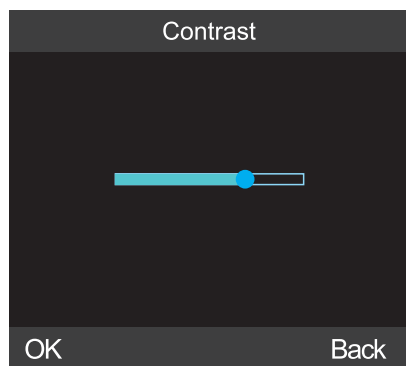

Figure 52 Brightness Setting Interface
h) Screen backlight brightness Select "Screen Backlight Brightness" in the "Function Settings" to enter the interface shown in Figure 52, which is used to set the brightness level of the screen backlight for users to use in various environments.